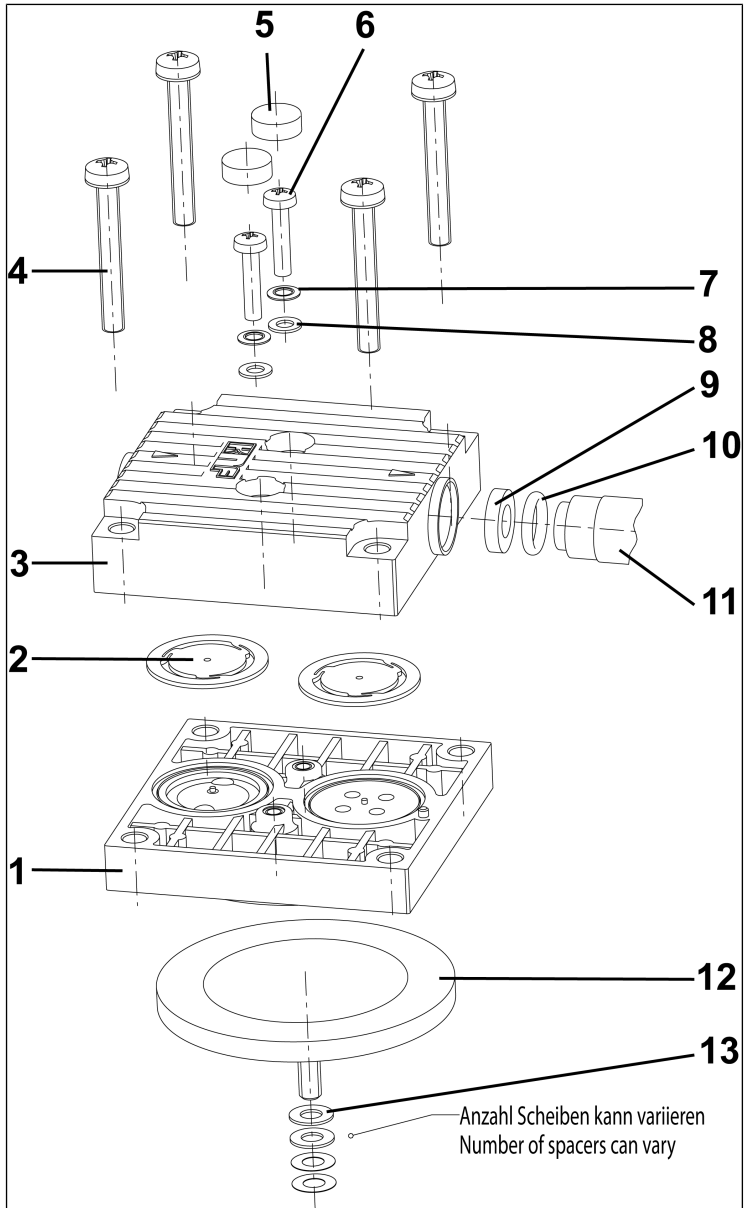

Fig.5: Pump head (exploded view, symbolic)
**According to Fig. 5
1. Move a diaphragm (Fig. 5/12) to the upper reversal point by turning the fan wheel (Fig. 4/14).
2. Lift the diaphragm (Fig. 5/12) on opposite side edges, grasp the diaphragm and unscrew the diaphragm counter-clockwise.
3. Remove the shim(s) (13) from the threaded bolt of the diaphragm and keep them in a safe place.
5. Slide the shims (13) onto the threaded bolt of the new diaphragm.
7. Screw the new diaphragm (Fig. 5/12) with shim(s) (13) clockwise onto the connecting rod and tighten finger-tight.
10. With a slight lateral movement of the head plate (Fig. 5/3), check its centering.
11. Connect the head plate (3) and the intermediate plate (1) by tightening the two screws (6) (finger-tight).
5. Only finger-tighten the screws (Fig. 5/4) crosswise on both pump heads.
7. Only finger-tighten the screws (Fig. 5/4) crosswise on both pump heads.